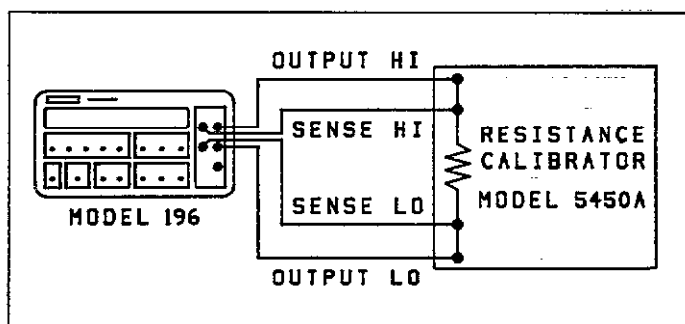

Figure 4-3. Connections for Ohms Verification (300 Ω –30k Ω Range)
2. Using Kelvin test leads (such as the Keithley Model 1641) connect the resistance calibrator to the Model 196 as shown in Figure 4-3.
6. Utilizing Figures 4-3 and 4-4, check the 3kΩ through 300MΩ ranges by applying the respective resistance levels listed in Table 4-4. Verify that the readings are within the limits listed in the table.